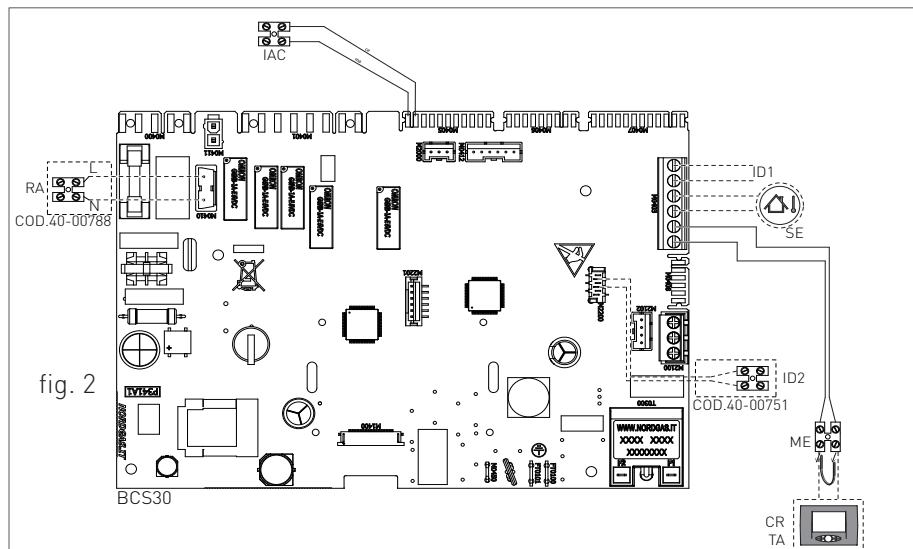
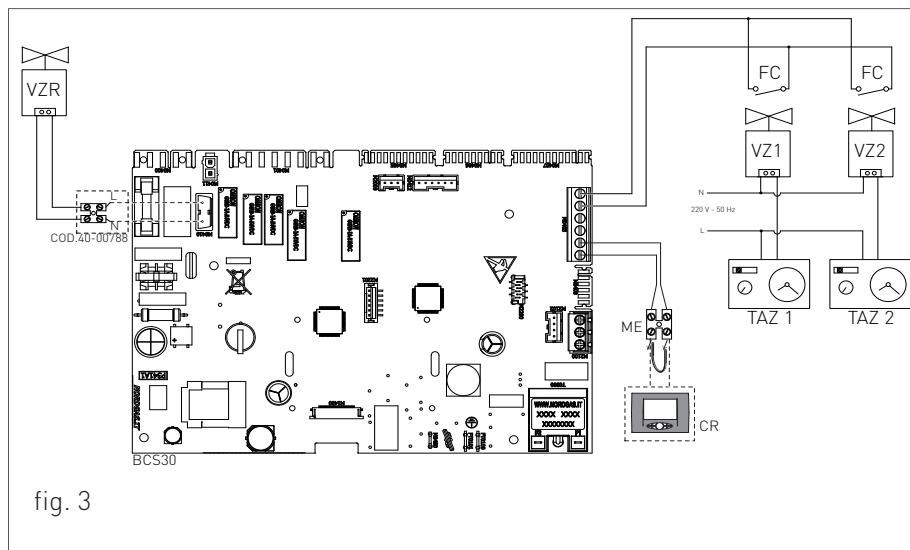

fig. 2
fig. 3
operate on the 'ME' clamp (see fig.2 and fig.3) which is outside the control panel, as follows:
- › after removing the back plate, connect the items below to the P.C.B. (see fig. 2).
- > The discharge duct must be perpendicular with the opposite internal wall of the chimney or of the fumes exhaust duct (fig. 2).